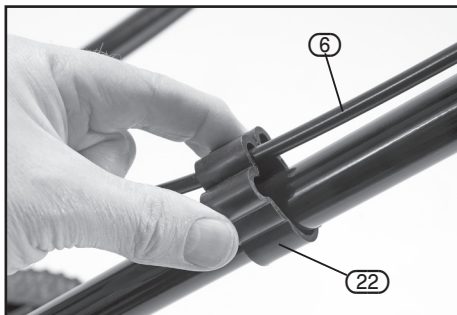

FIG. 4
8.2 ATTACHING THE CABLE CLIPS – FIG. 4